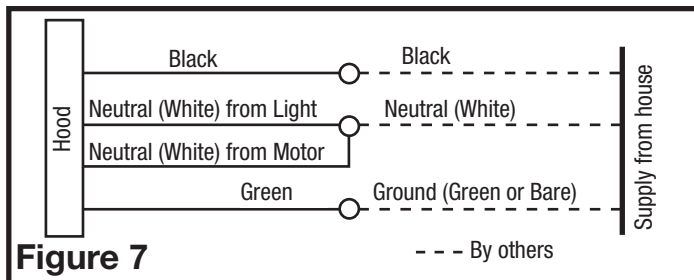

Figure 7
1. Connect the loose Black wire from the range hood to the Black wire from the supply, and the 2 loose White wires from the range hood to the White wire of the supply. Connect the ground wire (green or bare) from the supply to the green ground screw of the hood. Use approved methods for all connections (Figure 7).